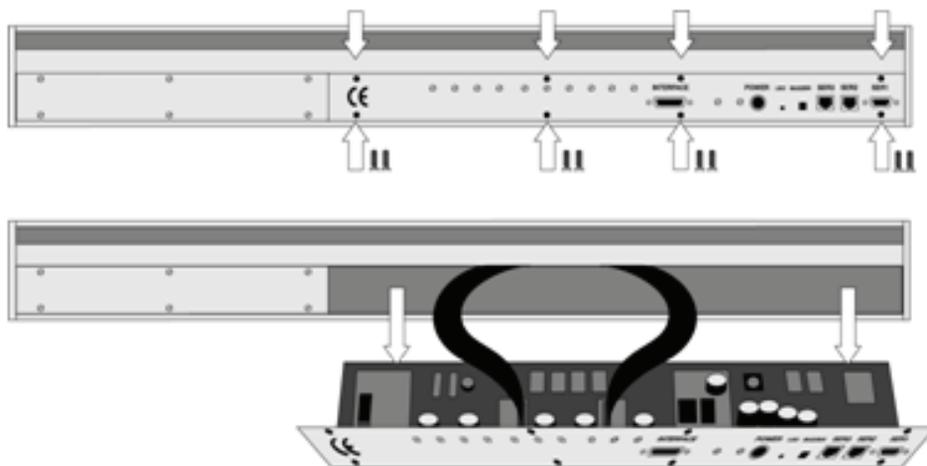

Figure 36 Replacing Control-GC Board
- 1 Follow the sequence shown in Figure 36 on page 104 to detach and release the Control-GC board from its position inside the X-axis. As shown, remove the dummy cover first.